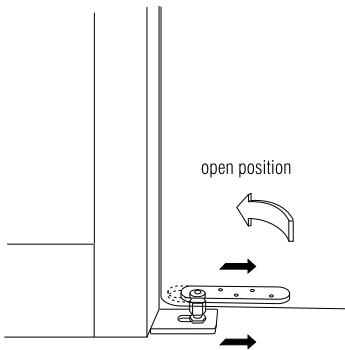

Figure 5
2. Moving the bottom door plate and the pivot approximately $\frac{1}{4}$ " toward the center of the door will make the door swing open under its own weight (Figure 5).